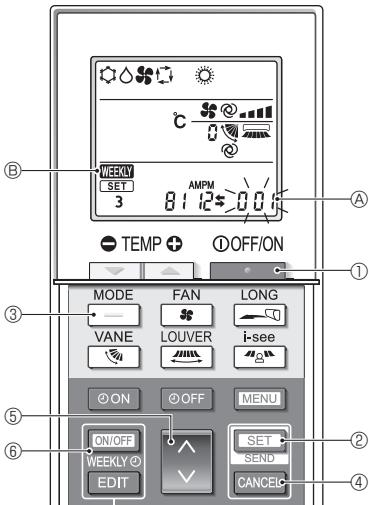

Fig. 6-7
6.8.8. How to disable Auto mode operation (Fig. 6-7)
1. Press the **—** button ① to stop the air conditioner.
- If the weekly timer is enabled, press the **ON/OFF** button ⑥ to disable the timer. (**WEEKLY** Ⓑ disappears.)
2. Press the **SET** button ② for 5 seconds.
3. Press the **▲** button ⑤.
4. Completing the settings (Fig. 6-7)